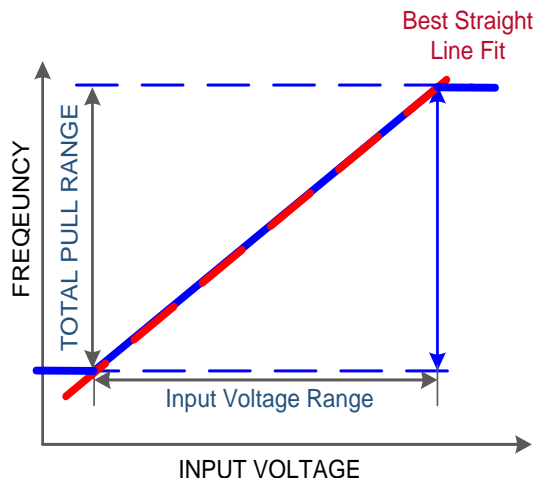

Figure 35. Typical SiTime VCTCXO Linearity
In any VCTCXO, there will be some deviation of the frequency-voltage (FV) characteristic from an ideal straight line. Linearity is the ratio of this maximum deviation to the total pull range, expressed as a percentage. Figure 35 below shows the typical pull linearity of a SiTime VCTCXO. The linearity is excellent (1% maximum) relative to most quartz offerings because the frequency pulling is achieved with a PLL rather than varactor diodes.